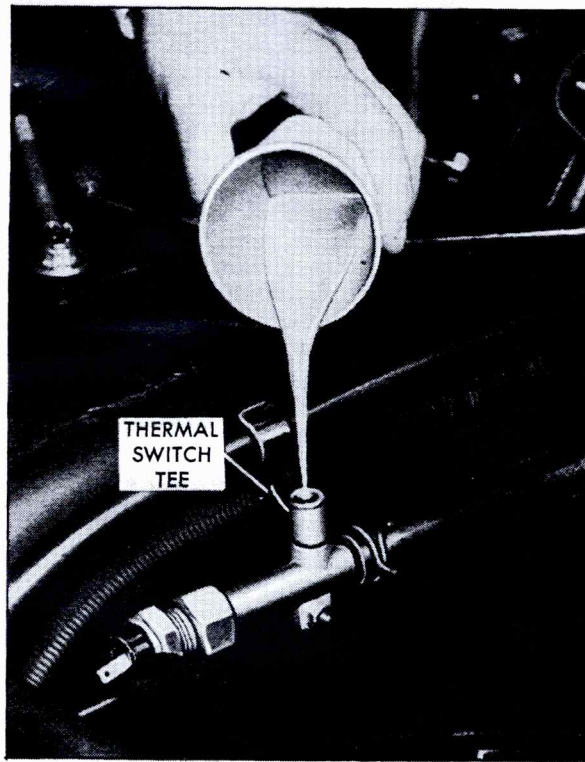

Fig. 15-55 Cooling Thermal Switch
3. Drain enough coolant from system to prevent coolant loss when top hose is removed. Remove top hose to thermal switch tee clamp and disconnect this hose. Pour a cup of cold water over tee, Fig. 15-55. Again touch one lead of self-powered test lamp to male connector and other to base of switch. Lamp should light. If lamp does not light, replace switch.